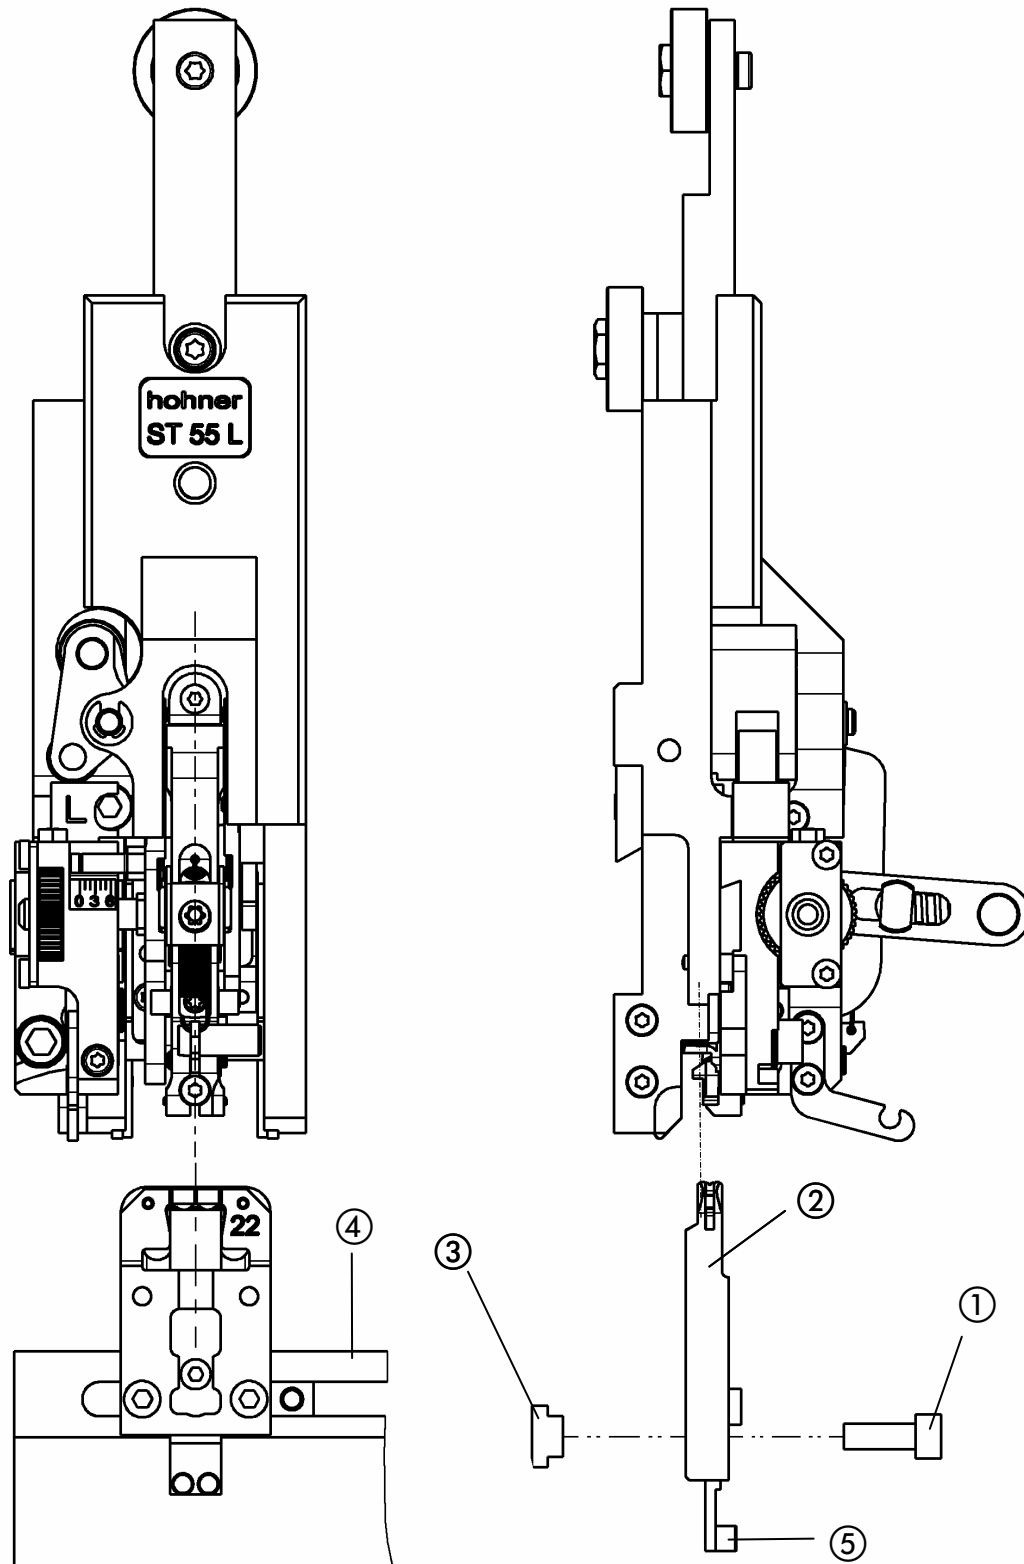

Fig. 5
- Fig. 5 -
- First remove the fastening screws ①, the clincher box ② and the tenon block ③.
- Push the tenon block ③ in the crosshead ④ from the back.
- Place the clincher box ② on the crosshead ④ from the front and make sure that the tappet ⑤ is positioned in the corresponding stroke bar.
- Fasten the clincher box ② with the tenon block ③ in the crosshead ④ by means of the fastening screws ①.